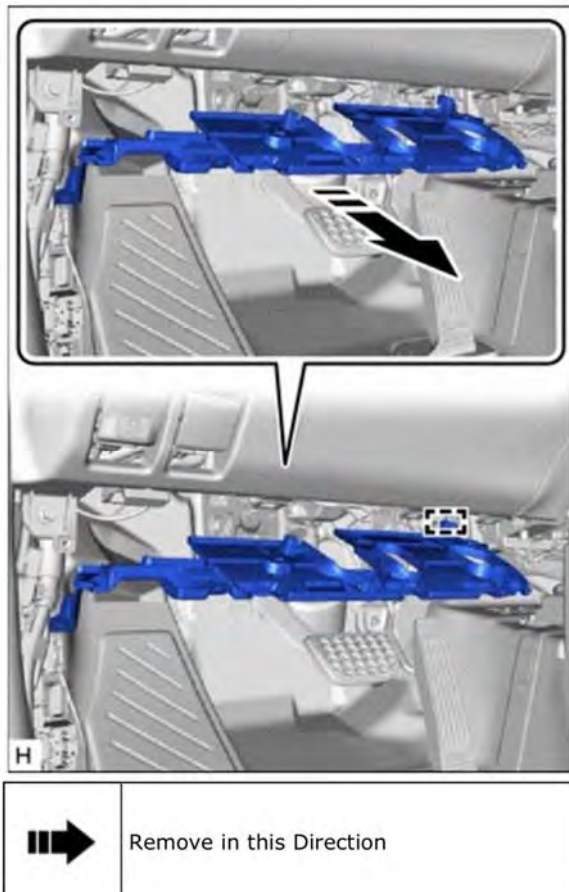

Figure 23
- (e) Pull in the direction of the arrow shown in the illustration to detach the guide and remove the No. 1 instrument panel under cover sub-assembly. Figure 23.